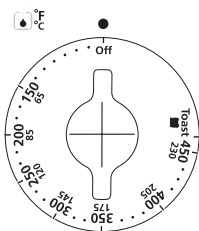

Figure 1
2. **Temperature Selector Knob** – Adjust the thermostat dial to the desired temperature. (See Figure 1)